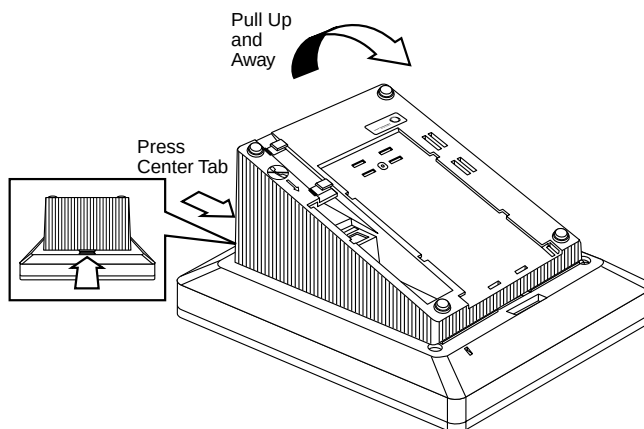
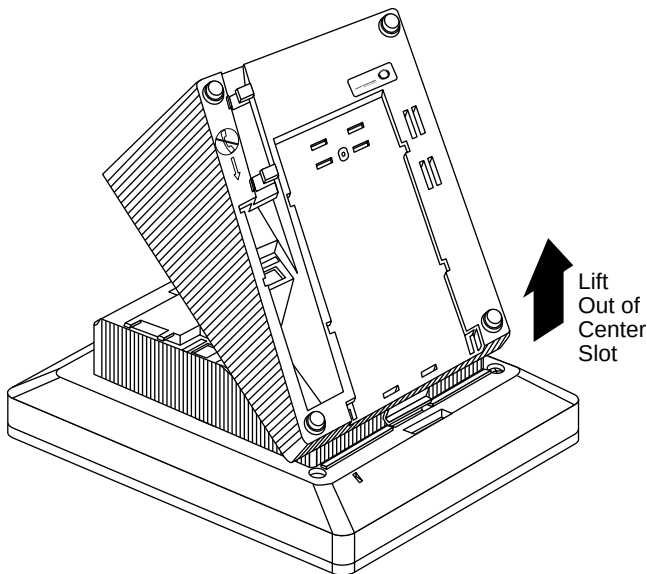

Figure 3-3. Releasing the Deskstand
Figure 3-4. Removing the Deskstand
- **2. Release and remove the deskstand from the telephone. See Figure 3-3 and Figure 3-4.**